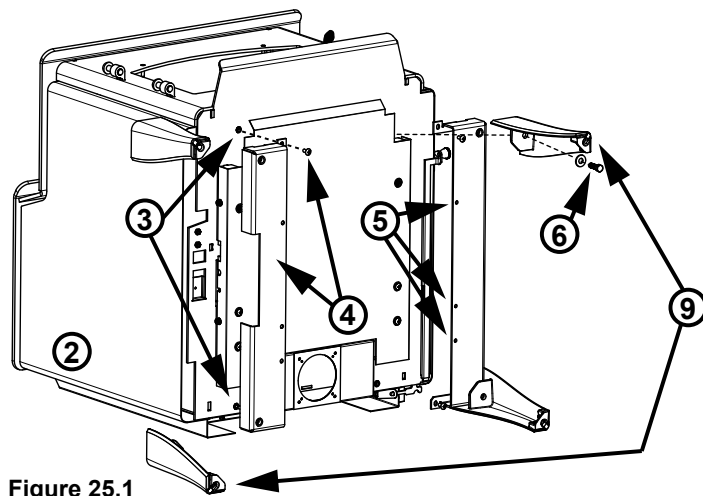

Figure 25.1
3. Remove four screws from bottom of appliance (**Figure 25.1**).
**NOTE:** There is a right and a left of the leg brackets (**Figure 25.1**).
5. Install six screws to the bottom of the leg brackets (**Figure 25.1**).
**NOTE:** Legs with leveling bolts need to be on opposite sides of the appliance - one in the front and one in the back (**Figure 25.1**).